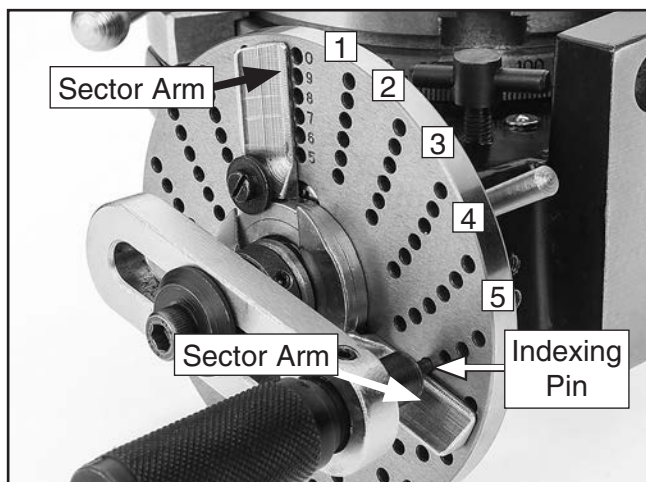

Figure 27. Example of hole spacing.
4. Rotate crank to take up any play in worm gear and zero table. Set crank arm pin into one of the 17-hole circle holes (see **Figure 27**).
Note: *What is being measured is space between holes. Five spaces need to be on 17th hole circle (which is imprinted on chosen dividing plate) between sector arms (see **Figure 27**).*
7. Move sector arm so it rests against indexing pin, as shown in **Figure 27**.